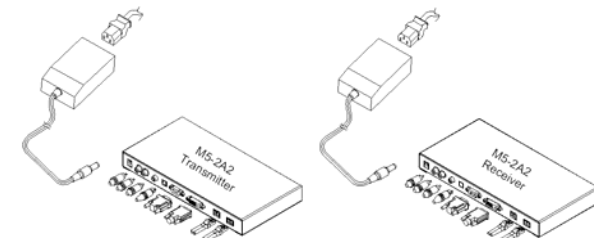

Figure 8 – Connection of AC/DC Power Adapter
| Figure 8 – Connection of AC/DC Power Adaptor                           | 1-5 |
Remove dust covers and connect two(2) duplex LC fibers to LC receptacles of the Transmitter and Receiver modules, as shown in Fig. 8. Carefully ensure the duplex LC connector is fully engaged.